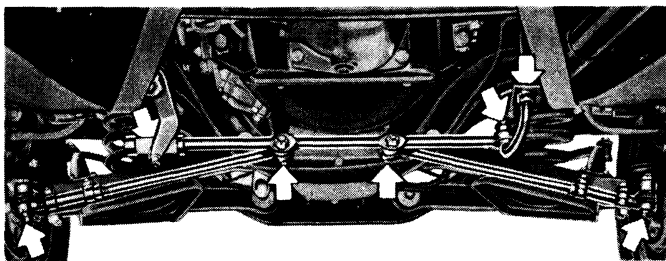

Fig. 1—Steering Linkage
(2) **STEERING LINKAGE.** Apply pressure gun grease at seven (7) fittings (fig. 1).